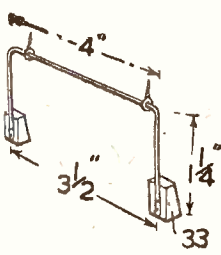

Fig. 10—Brake gear
Other fittings—the tailboard (31), the brake assembly (Fig. 10) and chimney (28 and 29) and lamp (32) with bracket